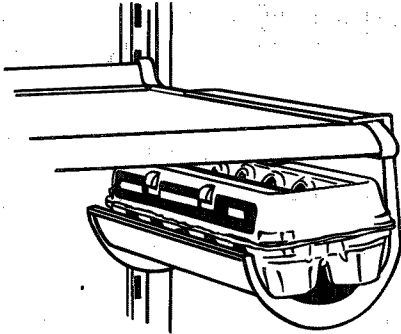

Figure 11
- If bottle is used, be sure bottle cap is on tightly before placing bottle in rack. See Figures 11, 12 and 13.